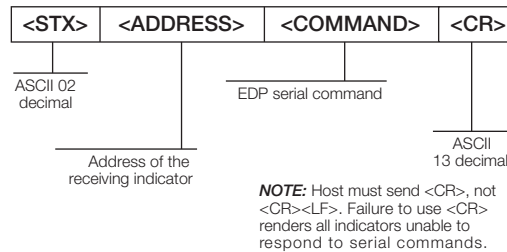

Figure 11-3. RS-485 Send Data Format
All remote commands are initiated using the data format shown in Figure 11-3:
**Example:** To send the XG#1 command from an ASCII terminal to an indicator at address 65 (decimal) on the RS-485 network, use the format shown in Figure 11-3.
- The indicator address (65) is represented by an upper case “A”.
- The carriage return (CR) character is generated by pressing the **Enter** key.